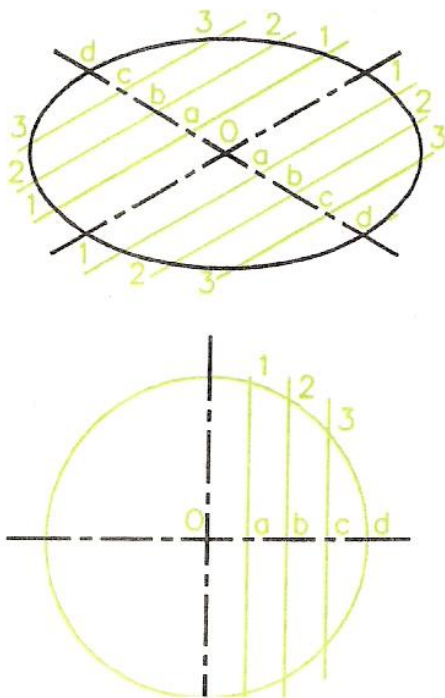
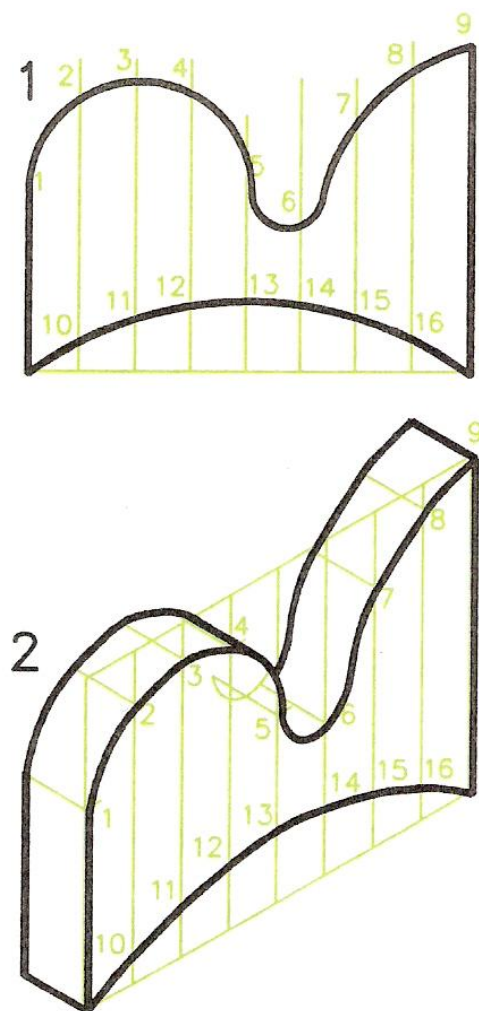

Figure 20 - Method of Constructing an Isometric Circle
Figure 34 - Example of drawing an Isometric Curve using the Ordinate Method of Construction
Figure 20 shows how an isometric circle is constructed:
1. Draw a circle of the required diameter - the lower drawing of Figure 20. Draw vertical lines - a, b and c - at any spacing across the circle.
2. Draw the two centre lines for the circle at 30 degrees each way - the upper drawing of Figure 20.
2. Construct the rod using the method shown in Figure 20 to draw the curves of the isometric circles.
The method of drawing ellipses (from circles) in isometric drawings as shown in Figure 20 is suitable for the drawing of more complicated shapes and curves in isometric drawings as shown in Figure 34. This illustration shows: